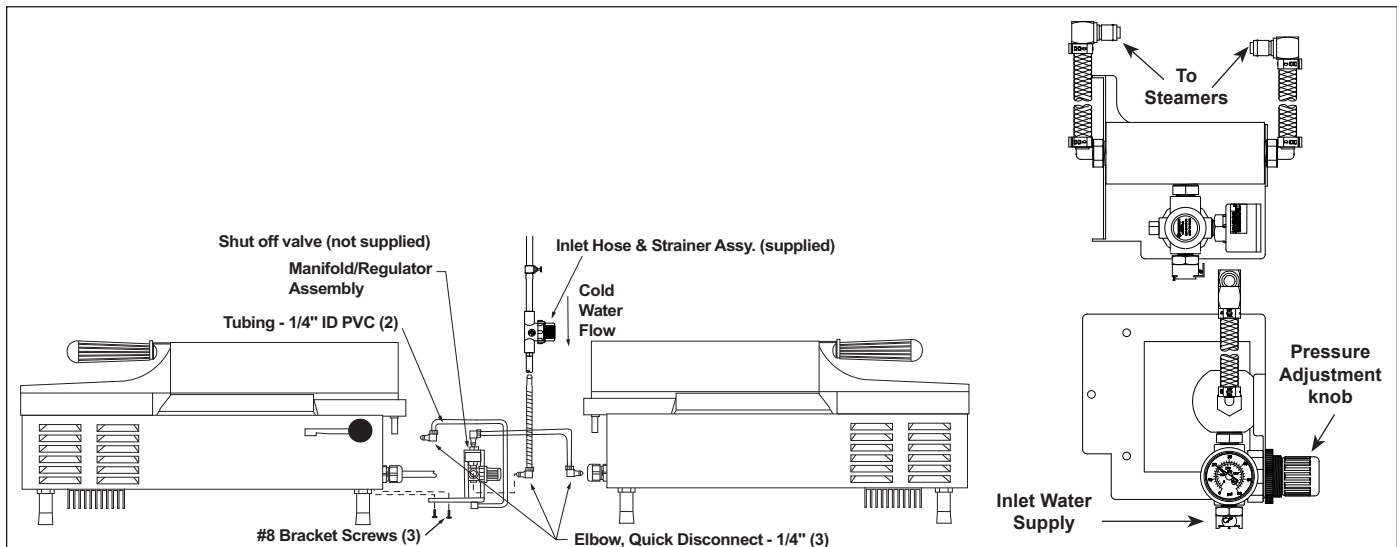
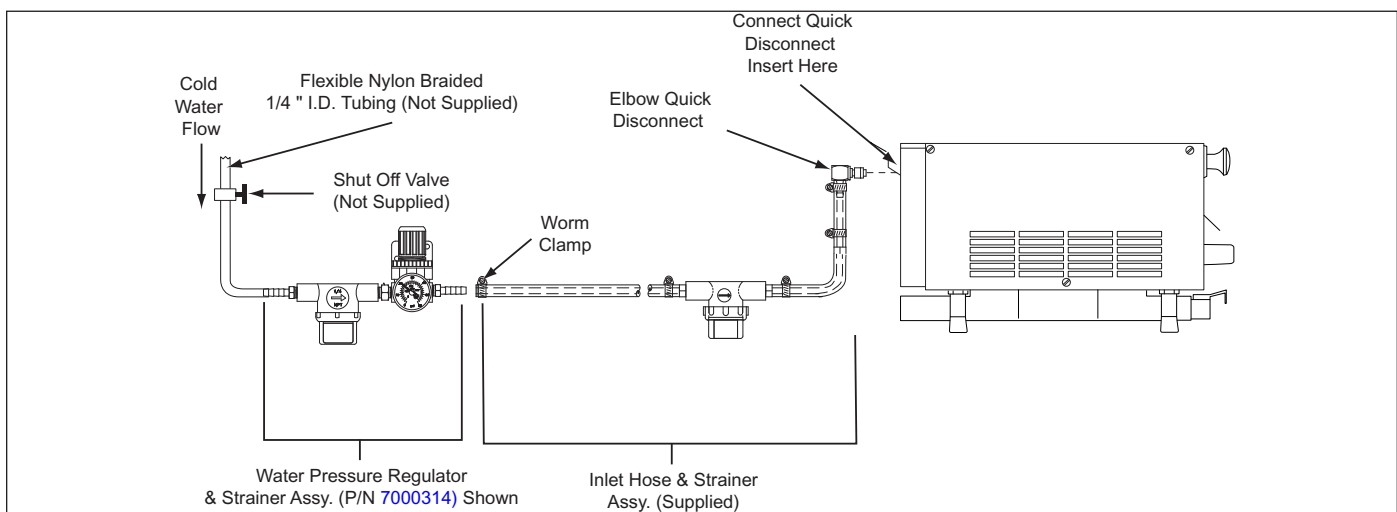

Figure 2A. Connecting Dual Manifold Water Pressure Regulator (P/N 7000235)
Figure 2. Connecting Single Water Pressure Regulator (P/N 7000314)
Your VS-350 requires direct water hookup. An Inlet Hose and Strainer assembly (Figure 2 and 2A) is supplied with the unit. A Water Pressure Regulator to feed 2 steamers (P/N 7000235 - Figure 2A) or to feed 1 steamer P/N 7000314 (Figure 2) must first be installed.
1. Install the Water Pressure Regulator assembly to the steamer (Figures 2 and 2A).
3. Push the white plastic tip on each 1/4" elbow Quick Disconnect (Figures 2 and 2A) and hold for a few seconds to purge out air in the line and allow water to flow freely into a bucket with a steady stream.